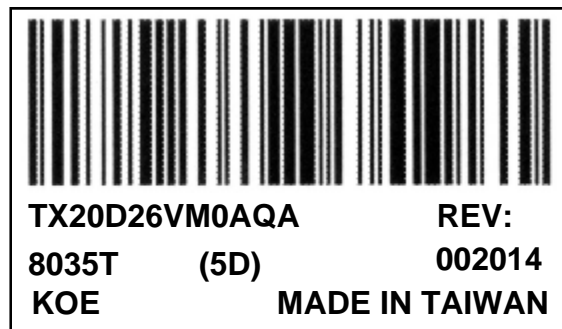

Fig. 14.3
1) The lot mark is showing in Fig.14.3. First 4 digits are used to represent production lot, T represented made in Taiwan, and the last 5 digits are the serial number.
4) The location of the lot mark is on the back of the display shown in Fig. 14.3.